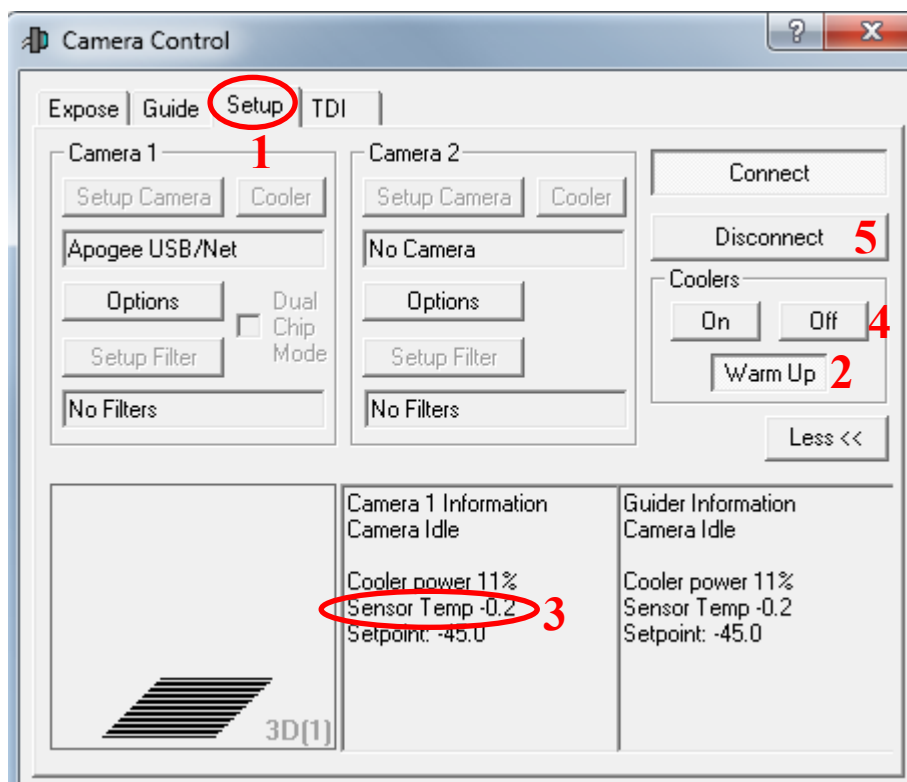

Fig. 5.13. Shutting down the CCD after warming it up properly.
1. Click on the “Setup” tab (Fig. 5.13 No 1) and press the “Warm Up” button (No 2). Wait until the “Sensor temp” to reach a value near the ambient temperature (i.e. approximately 10°C below the ambient temperature) (No 3). This process may last between 20-30 min depending on the Setpoint (the warming up rate is approx. +2 °C/min).